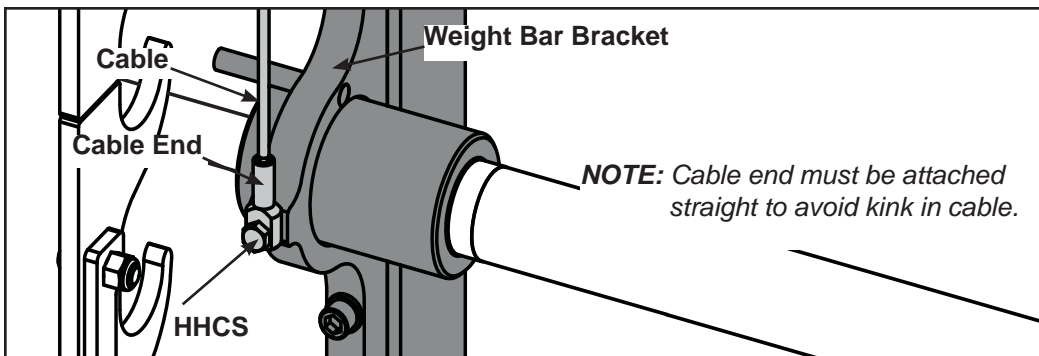

Figure 6
- C. Using a 7/16" wrench, attach cable end to weight bar bracket with HHCS. **NOTE:** Cable end must be attached straight to avoid a kink in cable. See Figure 6.